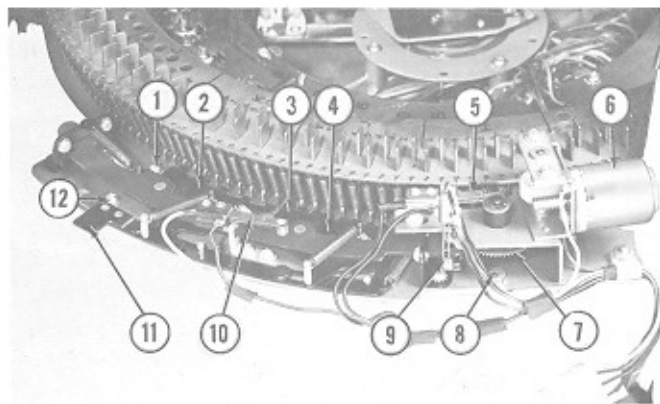
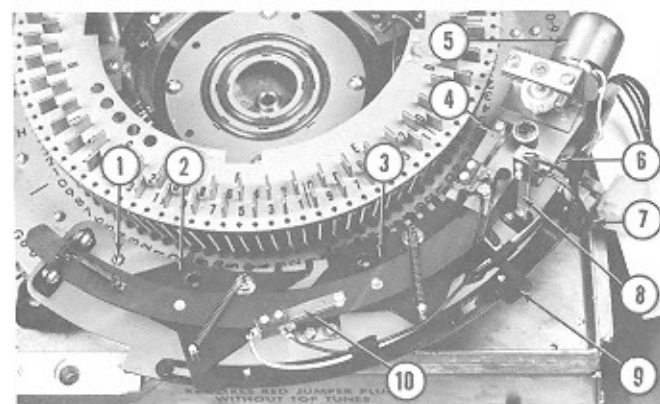
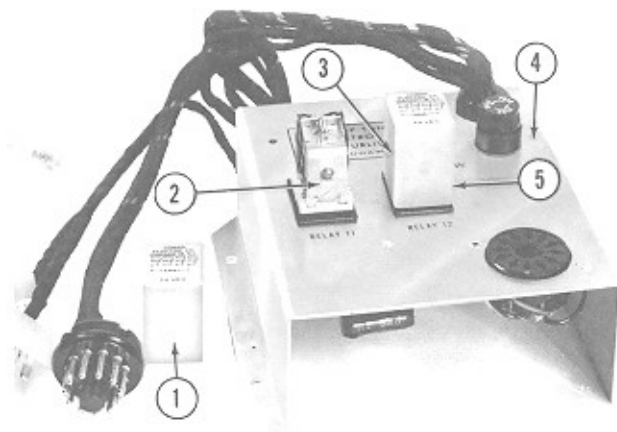

FIG. 72. TOP TUNES AND ALBUM SELECTOR - 2800
FIG. 73. TOP TUNES AND ALBUM SELECTOR - 2810
FIG. 74. TOP TUNE CONTROL UNIT ASSEMBLY
a. The Top Tunes and Album Selector for the Model 2800 Wurlitzer Phonograph is designated as Kit 184A, Automatic Programing Assembly, Part No. 124651. This includes a Window Casting and Button Assembly, a Control Box (Fig. 74) and the Mounting Plate and Motor Assembly shown in Figure 72, mounted on the two hundred selection electric selector.
Depositing a half dollar in the phonograph actuates RY-11 on the Control Unit (Fig. 74). This relay turns on the Select light and energizes the Pre-Set Solenoid on the Phonograph Keyboard. The Golden Bar in the Window Casting and Button Assembly also lights.
Pressing the Golden Bar actuates three switches labeled 1, 2 and 3 on Wiring Diagram No. 123859. The closing of number 3 switch energizes RY-12 on the Control Unit. Contacts 8 and 12 of RY-12 close to start the motor (Fig. 72, Item 6). Contacts number 3 and 11 on RY-12 open to release RY-11. As the motor starts through its cycle the Switch (Fig. 72, Item 9) closes to complete the cycle. The Switch (Fig. 72, Item 5) is pulsed by the lobes on the large gear (Item 7) thereby adding digits to the electric counter in the Keyboard. The Release Switch (Item 10) opens at the end of the stroke of the actuator link to release RY-12. The cycling of the motor actuates the trip Levers (Items 2, 3 and 4) to
The Mounting Plate and Motor Assembly is attached to an additional plate spot welded to the lower plate of the selector pin assembly by four machine screws. Three are visible in Figure 72 at Items 1, 8 and 12.
The Mounting Plate and Motor Assembly (Fig. 73) is designed to mount on the lower plate of the one hundred selection electric selector by removing the two inner selector solenoid mounting screws from solenoids D6-0 and G1-5. The Mounting Plate and Motor Assembly is held in position by two 4-40 x 1/4" screws. One is shown in Figure 73 at Item 1. The other screw will be found located below the number 4 arrow.
The operation is identical with the unit in Figure 72. The Selector Lever (Fig. 73, Item 7) is shown in the Top Tunes position.
The ten selector pins E1 through E0 are released when the Selector Lever (Fig. 73, Item 7) is set in the Album position. In the Top Tunes position the ten odd number pins E1 through F9 will be released.